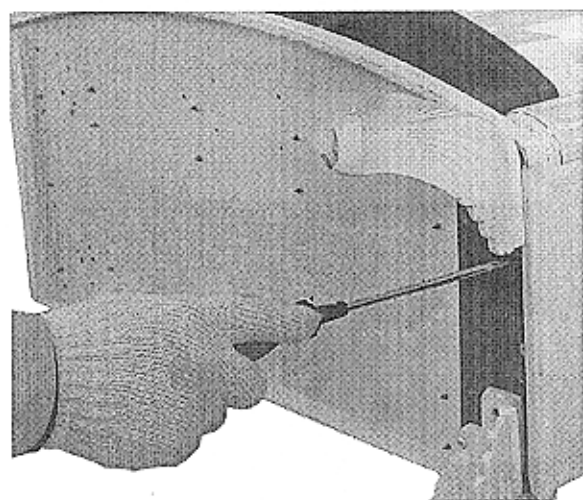

Figure 2
- Lay the heater down on its back and install the legs with care on the bottom panel as shown in Figure 2 (Make sure the vein side is facing forward).